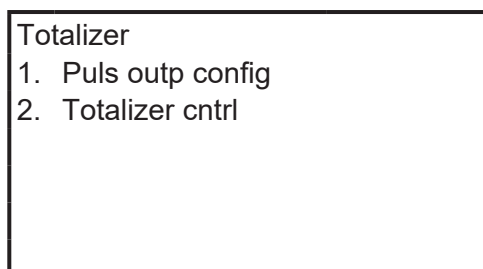

Figure 21 Totalizer menu
2. Select “1. Pulse output config.” from the totalizer menu. (Figure 21)
1. Select “2. Totalizer cntl” from the totalizer menu. (Figure 21)